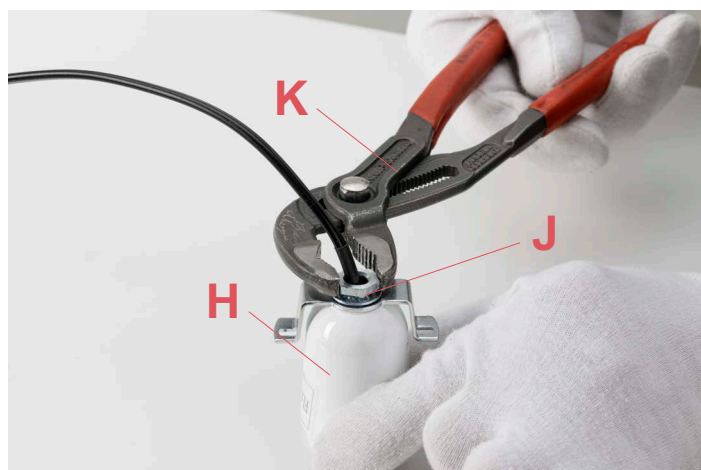

Fig.16
Fasten it well by fastening the nut (J) with the adjustable plier (K).(Fig.16)